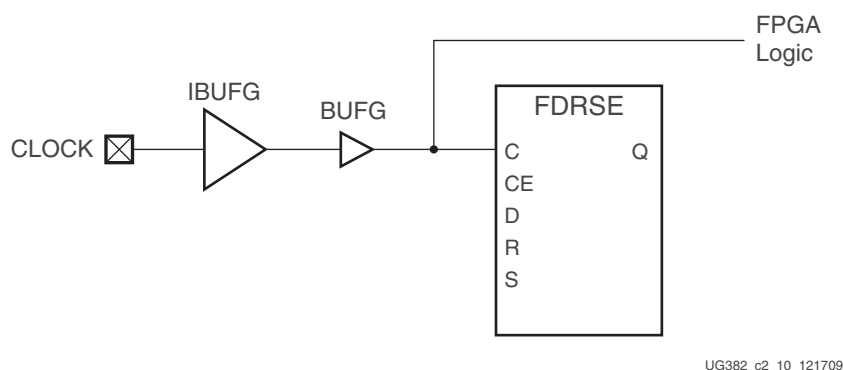

Figure 1-13: I/O Flip-Flop Clocking using BUFG
- Figure 1-13 uses a BUFG (GCLK) to drive both FPGA logic and I/O. Works with or without IODELAY2.